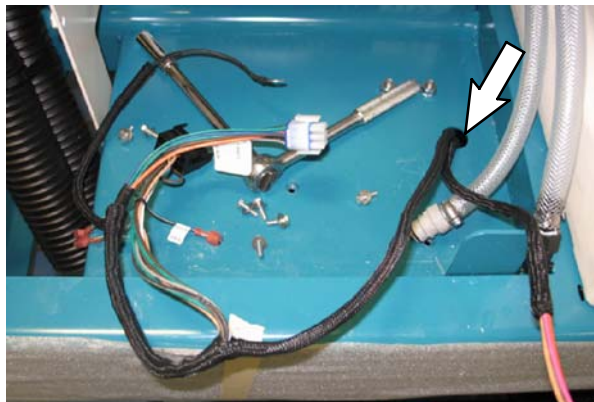

FIG. 14
15. Route the end of the *ec-H2O* harness with the diode through the hole in the frame of the machine and to the water valve attached to the scrub head. Refer to Fig. 14.